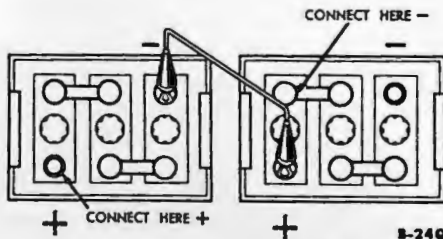

Fig. 7—Series Connected Batteries
(1) **REMOVE RADIO RECEIVER.** Remove the radio receiver. With the radio receiver on a test bench, connect as shown in fig. 1, except that an 8-volt battery must be used. This can be accomplished by using two batteries and connecting one cell of one battery to the battery already used as shown in fig. 7. Turn the radio receiver on and tune in a station. Allow the radio receiver to operate until distortion occurs. This should be evident after 5 to 45 minutes. If distortion is evident, proceed with subpar. (a) below.